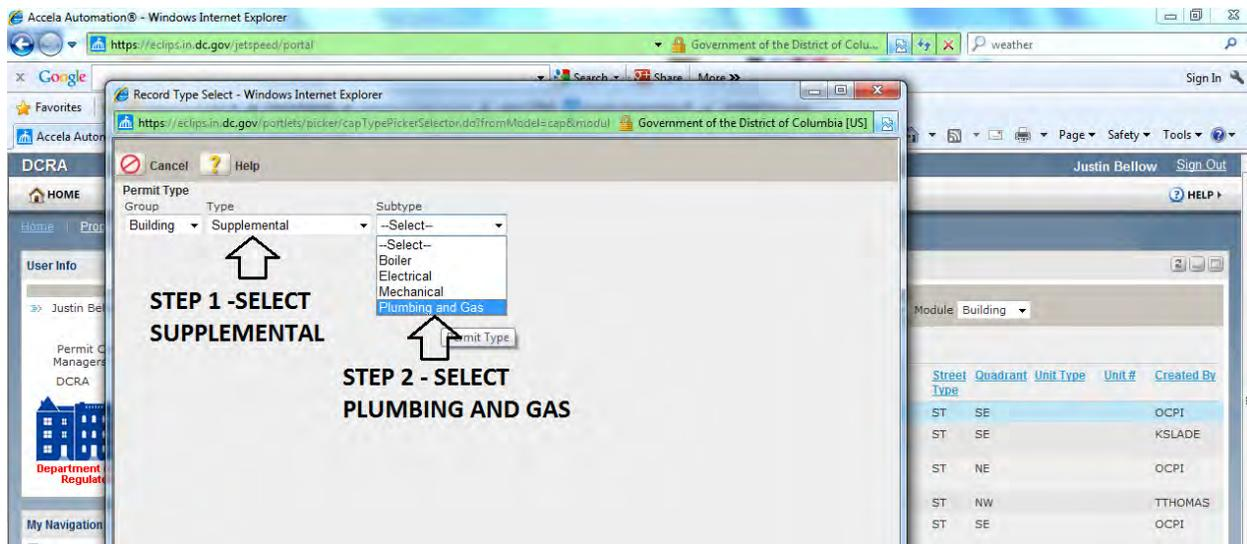

Figure 2.2
5. Accela will open a new window with three drop down menus. The first drop down menu, “Group” is pre-populated with “Building” (see Figure 2.2)
- Select “Supplemental” from the “Type” drop down menu (see Figure 2.2)
- Select “Plumbing and Gas” from the “Subtype” drop down menu (see Figure 2.2)